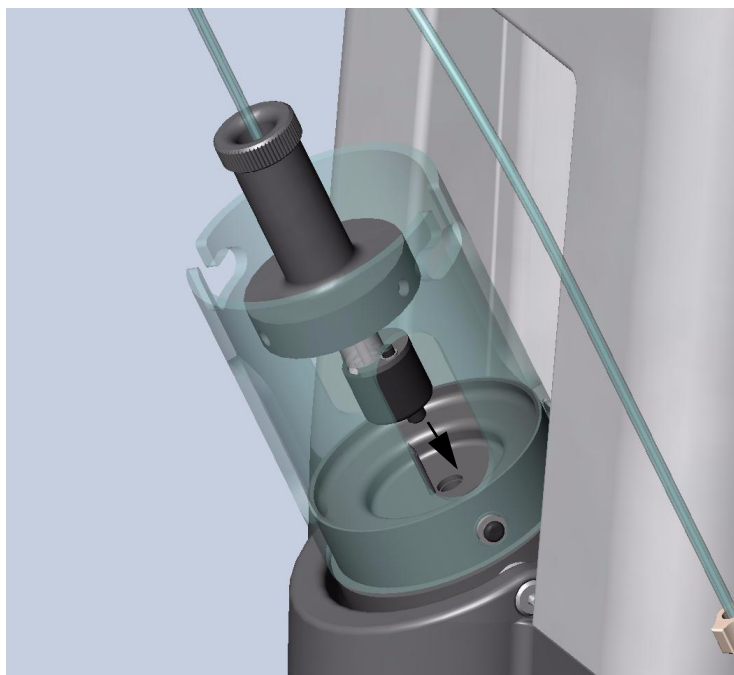

Fig 3-21 : Align the Adapter
- 7) With the O-ring opened, align the adapter as shown in Figure 3-21, such that the peg on the bottom aligns with the threaded hole in the bottle dock. Position the hole in the bottom of the adapter directly over the short needle.